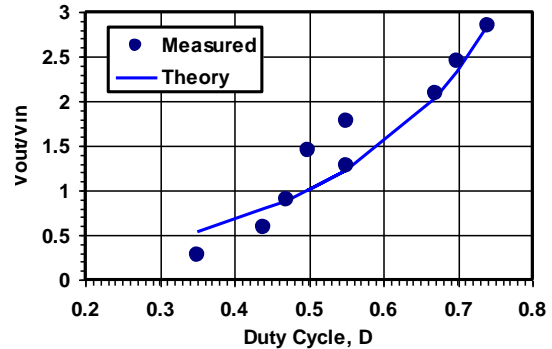

Figure 2. Measured versus theoretical comparison of Vout/Vin ratio of the SEPIC converter as a function of duty cycle D at a frequency of 90 kHz.
From the data of Table 1, and using equation (1) the measured and theoretical performance of the SEPIC converter can be compared. Fig. 2. shows such a plot. There is good match between the measured and theoretical voltage ratio as D is varied.